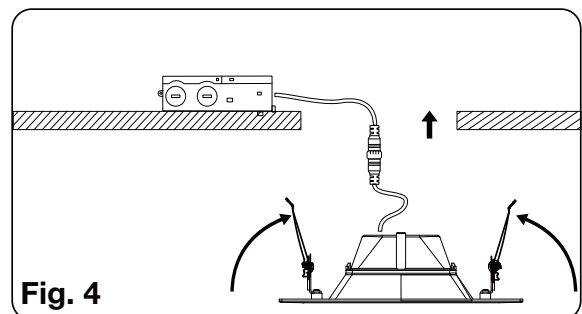

Fig. 4
4. Push the spring-loaded clips into the mounting hole upwards and insert the fixture into it. Release the clips and the fixture will be pulled flush to the ceiling, see Fig. 4